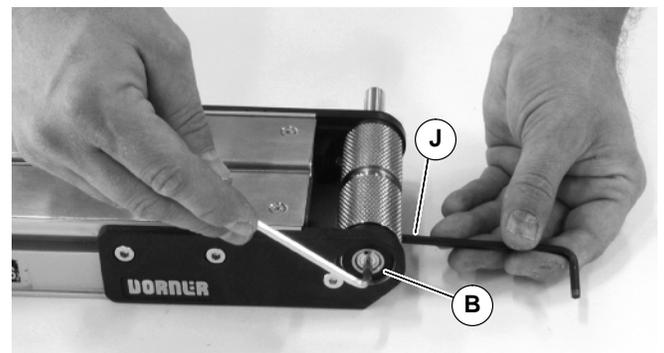

Figure 28
13. With 4mm hex-key wrench, tighten pulley taper screw (B of Figure 28) to 75 in-lb (8.5 Nm). Steady pulley with second hex-key wrench (J) inserted into pulley hole.